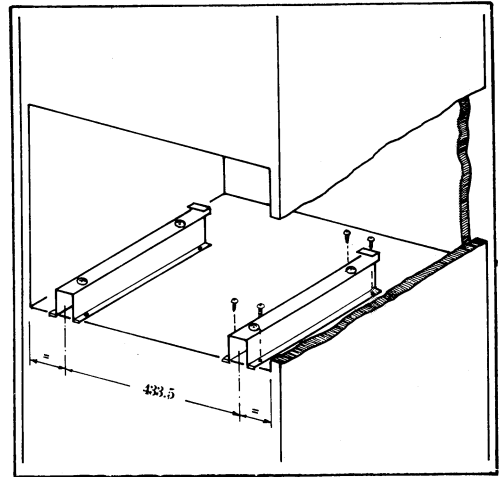

Fig. 3
1. Fix the two supports onto the bottom of recess with four screws each (Fig 3).